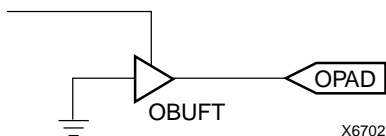

Figure 18: Open-Drain Output
An output can be configured as open-drain (open-collector) by placing an OBUFT symbol in a schematic or HDL code, then tying the 3-state pin (T) to the output signal, and the input pin (I) to Ground. (See Figure 18.)